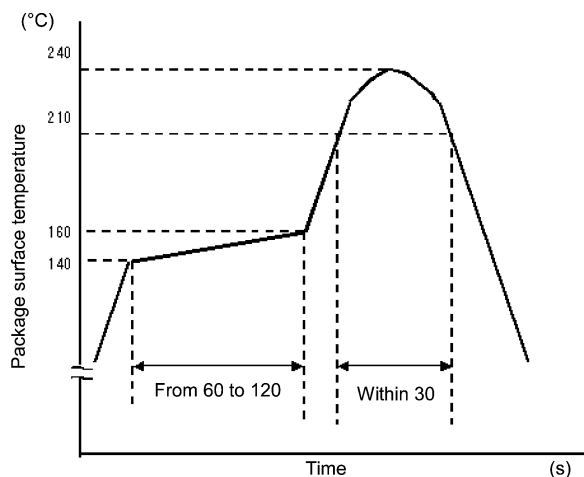

Fig. 12.1.1 An example of a temperature profile when Sn-Pb eutectic solder is used
- When using soldering reflow (See Fig. 12.1.1 and 12.1.2)